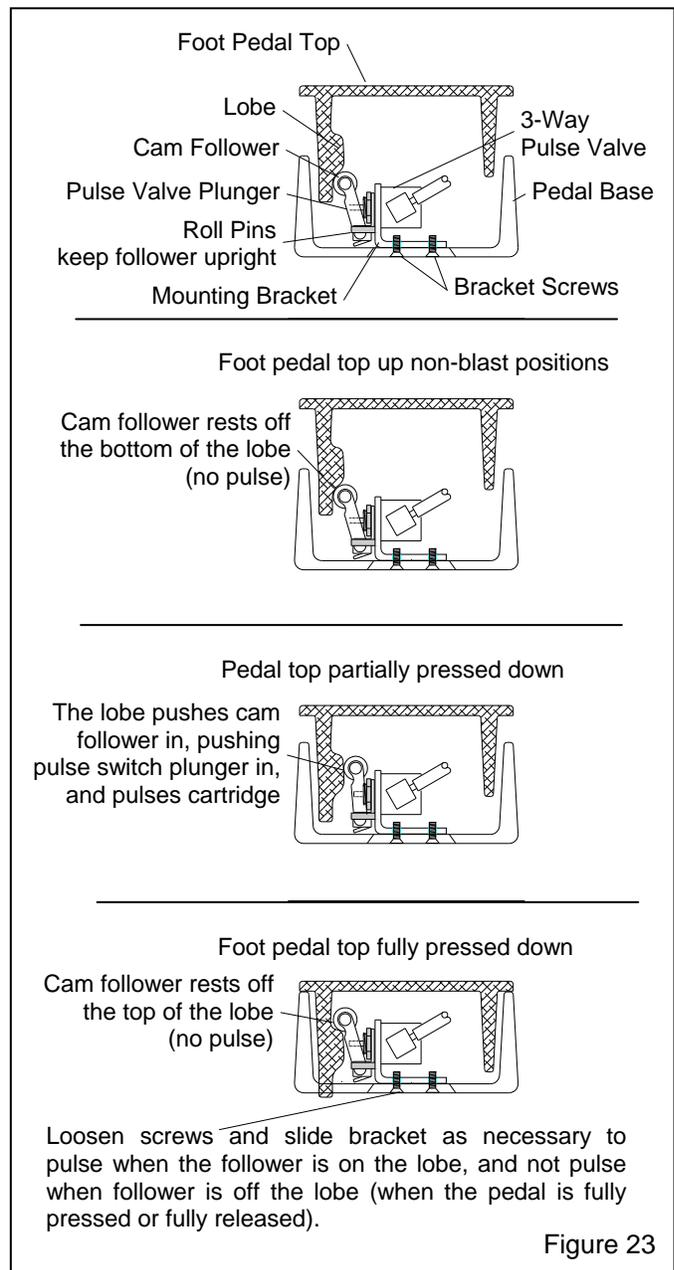

Figure 23
8.15.2 Refer to Figure 23 and make sure the 3-way pulse valve has not come loose from the mounting bracket. Tighten the retaining nut as needed to secure.
8.15.3 If the cam follower tilts to one side, one or both roll pins are bent or missing. Remove the two screws on the bottom of the pedal and remove the switch and cam follower assembly. Center the cam follower and replace roll pins as needed to hold the cam follower in place. Refer to Figure 23.
8.15.4 Check alignment of pulse-valve cam follower: With the exhauster running and with blast pressure adjusted to 0 psi, hold the foot pedal in hand and fully press the pedal top. The collector should pulse as the cam follower rides over the lobe on the pedal top when the pedal is pressed, and again when the pedal is released, as shown in Figure 23. Note: The pedal should be rapidly pressed and released so the cam follower quickly rides over the lobe; prolonged engagement of the pulse valve will lengthen the pulse, which does not clean the cartridge and wastes compressed air.